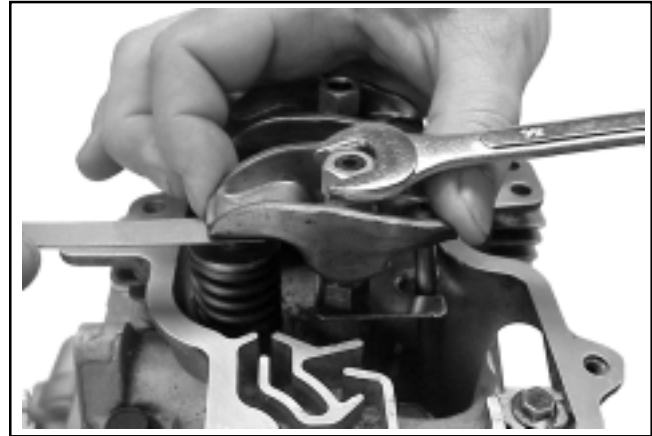

Figure 11-46. Adjusting Valve Lash.
- c. Insert a .07/.12 mm (.003/.005 in.) feeler gauge between the rocker arm and end of valve, and turn the adjustment nut "clockwise" (down) until a slight drag is felt on the feeler gauge. See Figure 11-46.